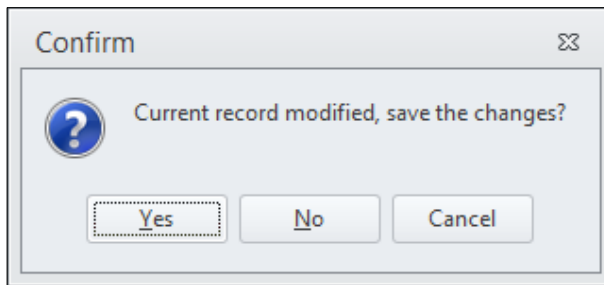

Figure 75 Link tax modification
- 3) To add a new tax, the user must know the start (A) and end (B) node for the link in the network. To visualize the network, open the Input_Data.mxd file, e.g., from the Data Section window. The A and B node numbers can be accessed e.g., by selecting the link with the Select Features tool and looking in the Feature Explorer window.
- 4) Close the Tax by Link table by clicking the “X” icon in the top right corner and click “Yes” to the question, see Figure 75.